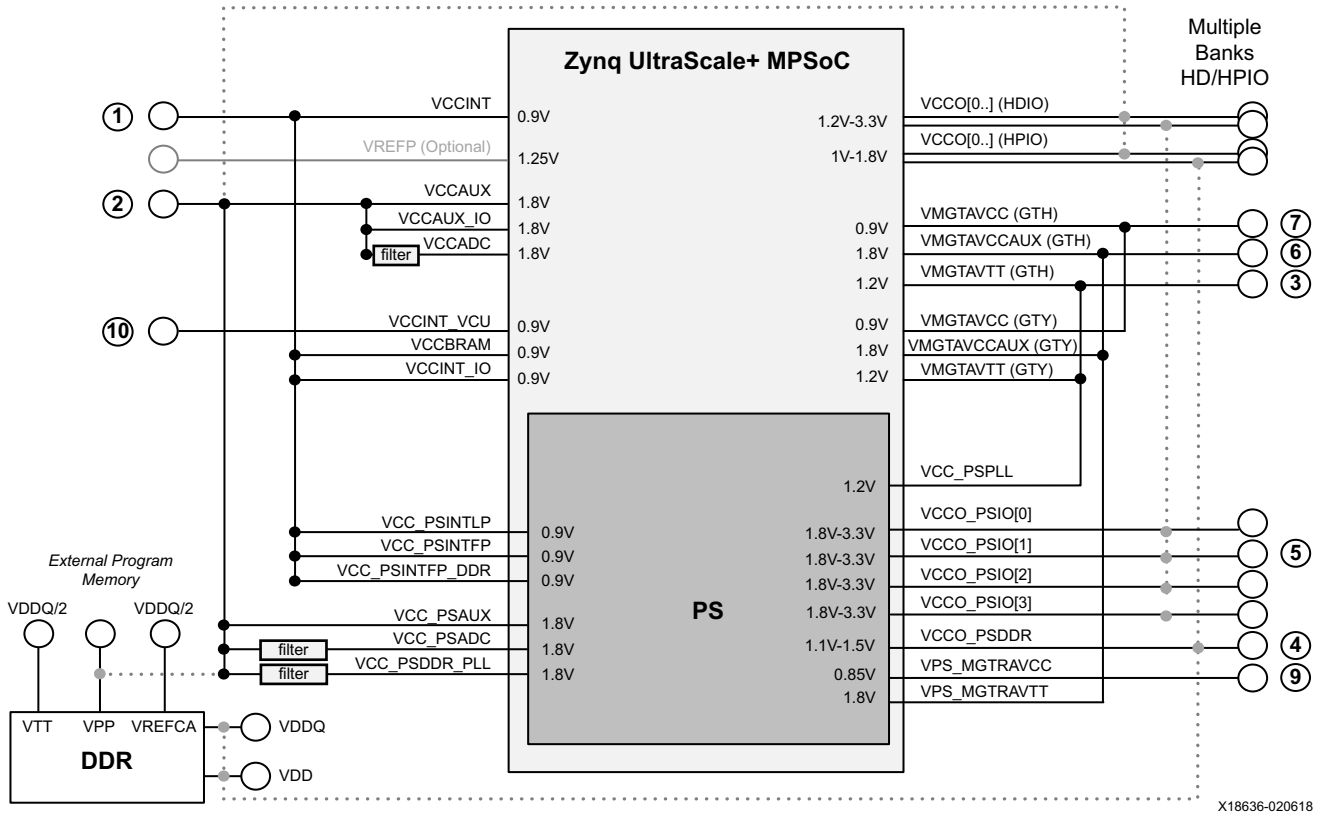

Figure 1-7: Always On: PL Performance-Optimized Rail Consolidation
Table 1-6 broadly defines the power rail consolidation that is possible for this use case, assuming the decoupling and filtering requirements on the individual supplies as outlined in this document are met. For further clarity, Figure 1-7 shows the possible power rail consolidation graphically. As shown in Table 1-6, the minimum number of power regulators required to power a Zynq UltraScale+ MPSoC in this use case is five for non-EV devices, and six for EV devices.
**Note:** In Figure 1-7, the dashed lines are dependent on the user configuration.